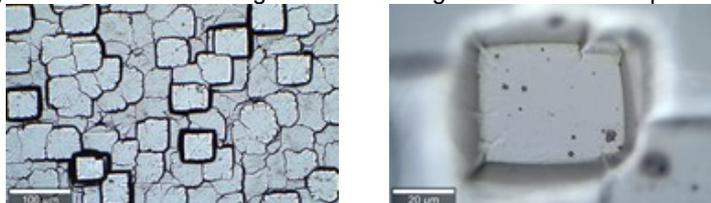

Figure 1: Video image with 20x/0.5 NA objective (left) and video image with 100x/0.9 NA objective (right)
Figure 1: Si lens. Left: Topography. Middle: Only one depth level is in focus with the standard confocal Raman microscope. Right: The same image as in the middle, but with TrueSurface activated the Si signal is constant from all depths as the sample surface is always kept in focus.
- The TS principle requires reflected light from the sample surface to be measured. Edges or strongly inclined areas can scatter or reflect the light beyond the collecting angle of the objective, which results in lower TS signal, especially for objectives of low **numerical aperture** (NA). Figure 1 shows video images of a silicon step sample. In the image on the left, acquired with a 20x/0.5 NA objective, the edges appear black because less light from there is collected by the objective. In the image on the right, the 100x/0.9 NA objective could collect light reflected from the edges due to the higher NA and the respective larger collecting angle.